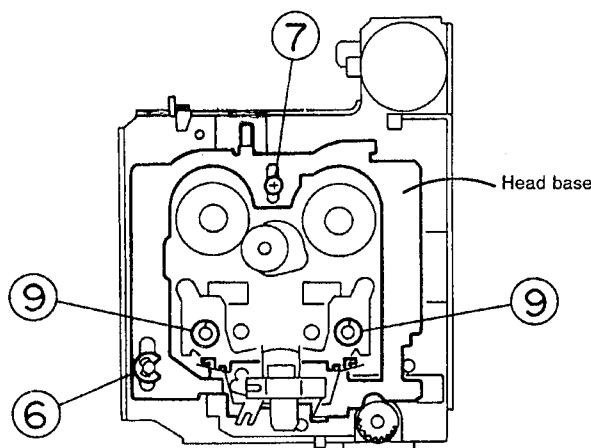
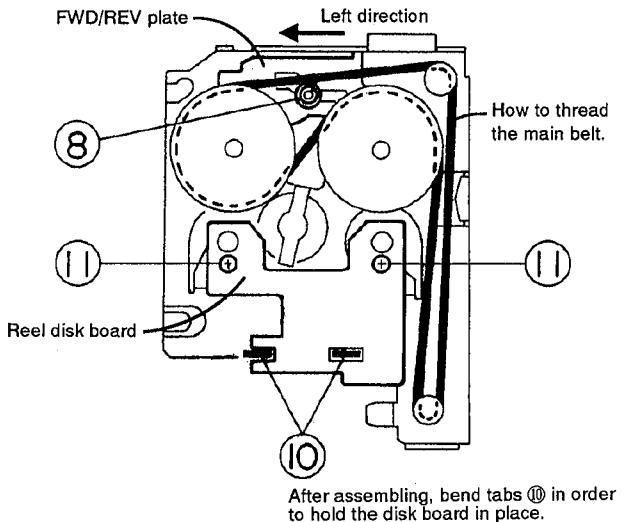

Fig. 4-13
Fig. 4-14
■ Head base (See Figs. 4-13 and 4-14)
- 3) Remove the E washer ⑥ from the left shaft of the pinch roller.
- 4) Remove screw ⑦ for the head base.
- 5) Turn the head base upside down, then remove the C washer ⑧ securing the collar which secures the FWD/REV plate (the collar can also be removed.) (At this time, if the main belt is removed, operation will be made easier.)
■ Flywheel ass'y (See Figs. 4-13 and 4-14)
- 3) Remove two C washers ⑨ attached to the capstan shaft (remove both the right and left washers).
■ Reel disk board ass'y (See Fig. 4-14)
- 1) Straighten the bent tabs ⑩ holding the reel disk board.
- 2) Remove two screws ⑪ fixing the reel disk board.
Step 1. How to Install the catch (K)